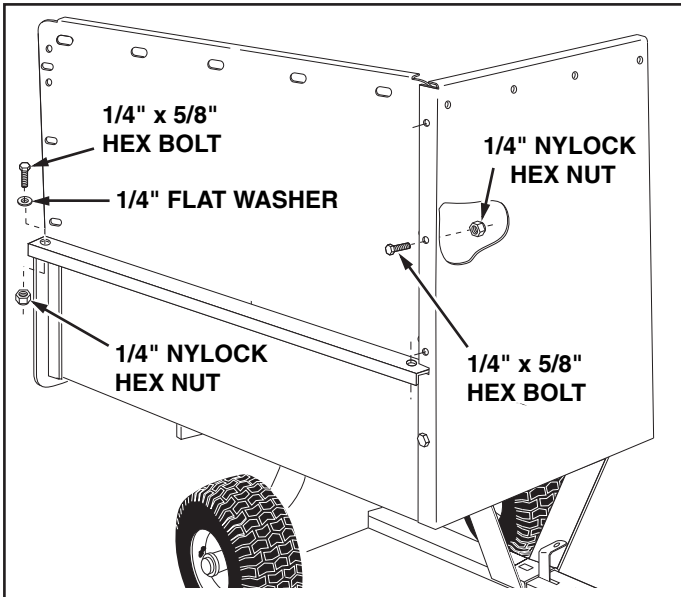

FIGURE 11
20. Place a side panel on top of the cart bed flange, inside the lip of the front panel. Fasten the side panel to the front panel using three 1/4" x 5/8" hex bolts and 1/4" Nylock hex nuts. Fasten the side panel to the cart bed flange using two 1/4" x 5/8" hex bolts, 1/4" flat washers, and 1/4" Nylock hex nuts. **Tighten**. See figure 11. Repeat on other side.